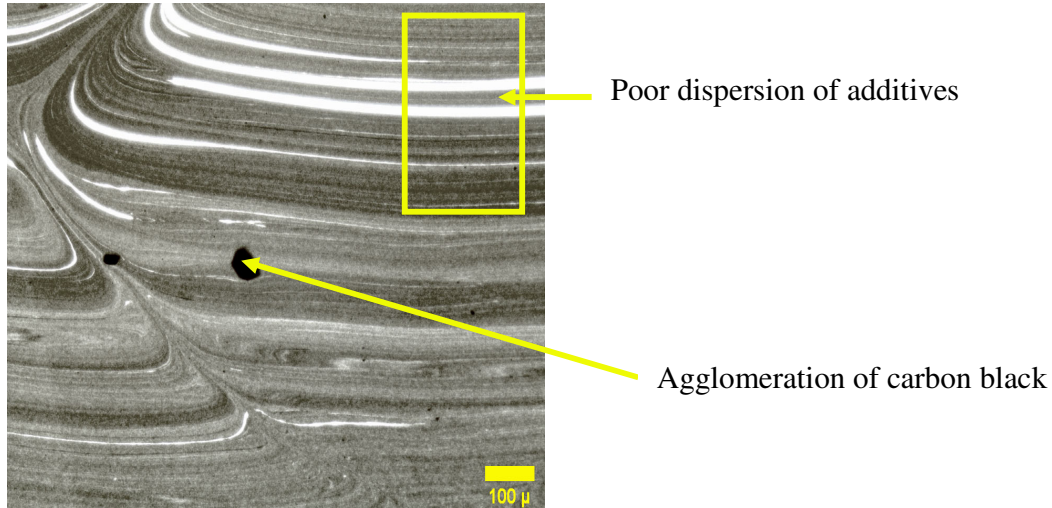

Fig.1. Poor dispersion of additives in polyethylene
- iii) Good dispersion of the pigment and additives is essential for long term pipe performance. It is particularly difficult to disperse 2 – 2.5% carbon black without large agglomerates using a standard single screw extruder. These agglomerates can provide an initiation site for a crack which can cause premature failure of the pipe (see fig.1).